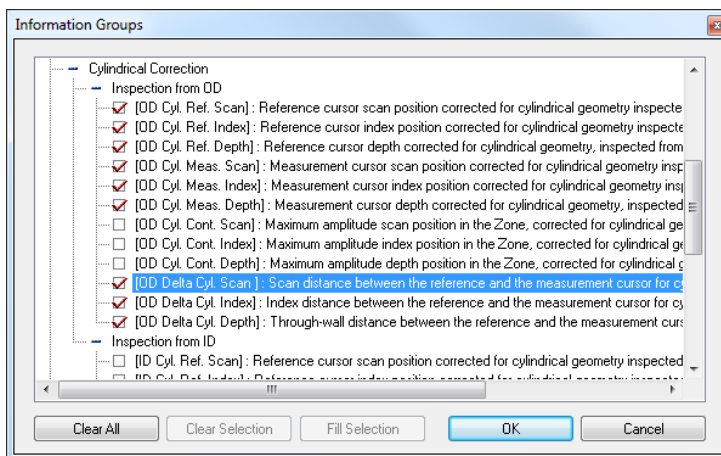

Figure 7-64 Selection of OD-related parameters
1. Make sure that at least the reference (red) cursor is present in the Volume Corrected Side (B) view before activating the cylindrical correction.
2. In the VC-Side (B) view, select the applicable information fields (either OD- or ID-related) as follows:
- a) Click to activate the VC-Side (B) view.
- e) From the **Cylindrical correction** group, double-click to select the applicable information check boxes (see example in Figure 7-64 on page 405 showing a selection of OD-related parameters).